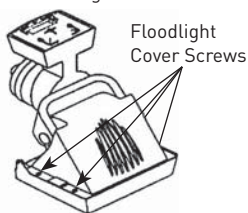

Fig. 9
1. Remove the lamp cover screws retaining front glass frame (See Fig. 9) and swing the glass frame away from the floodlight cover.